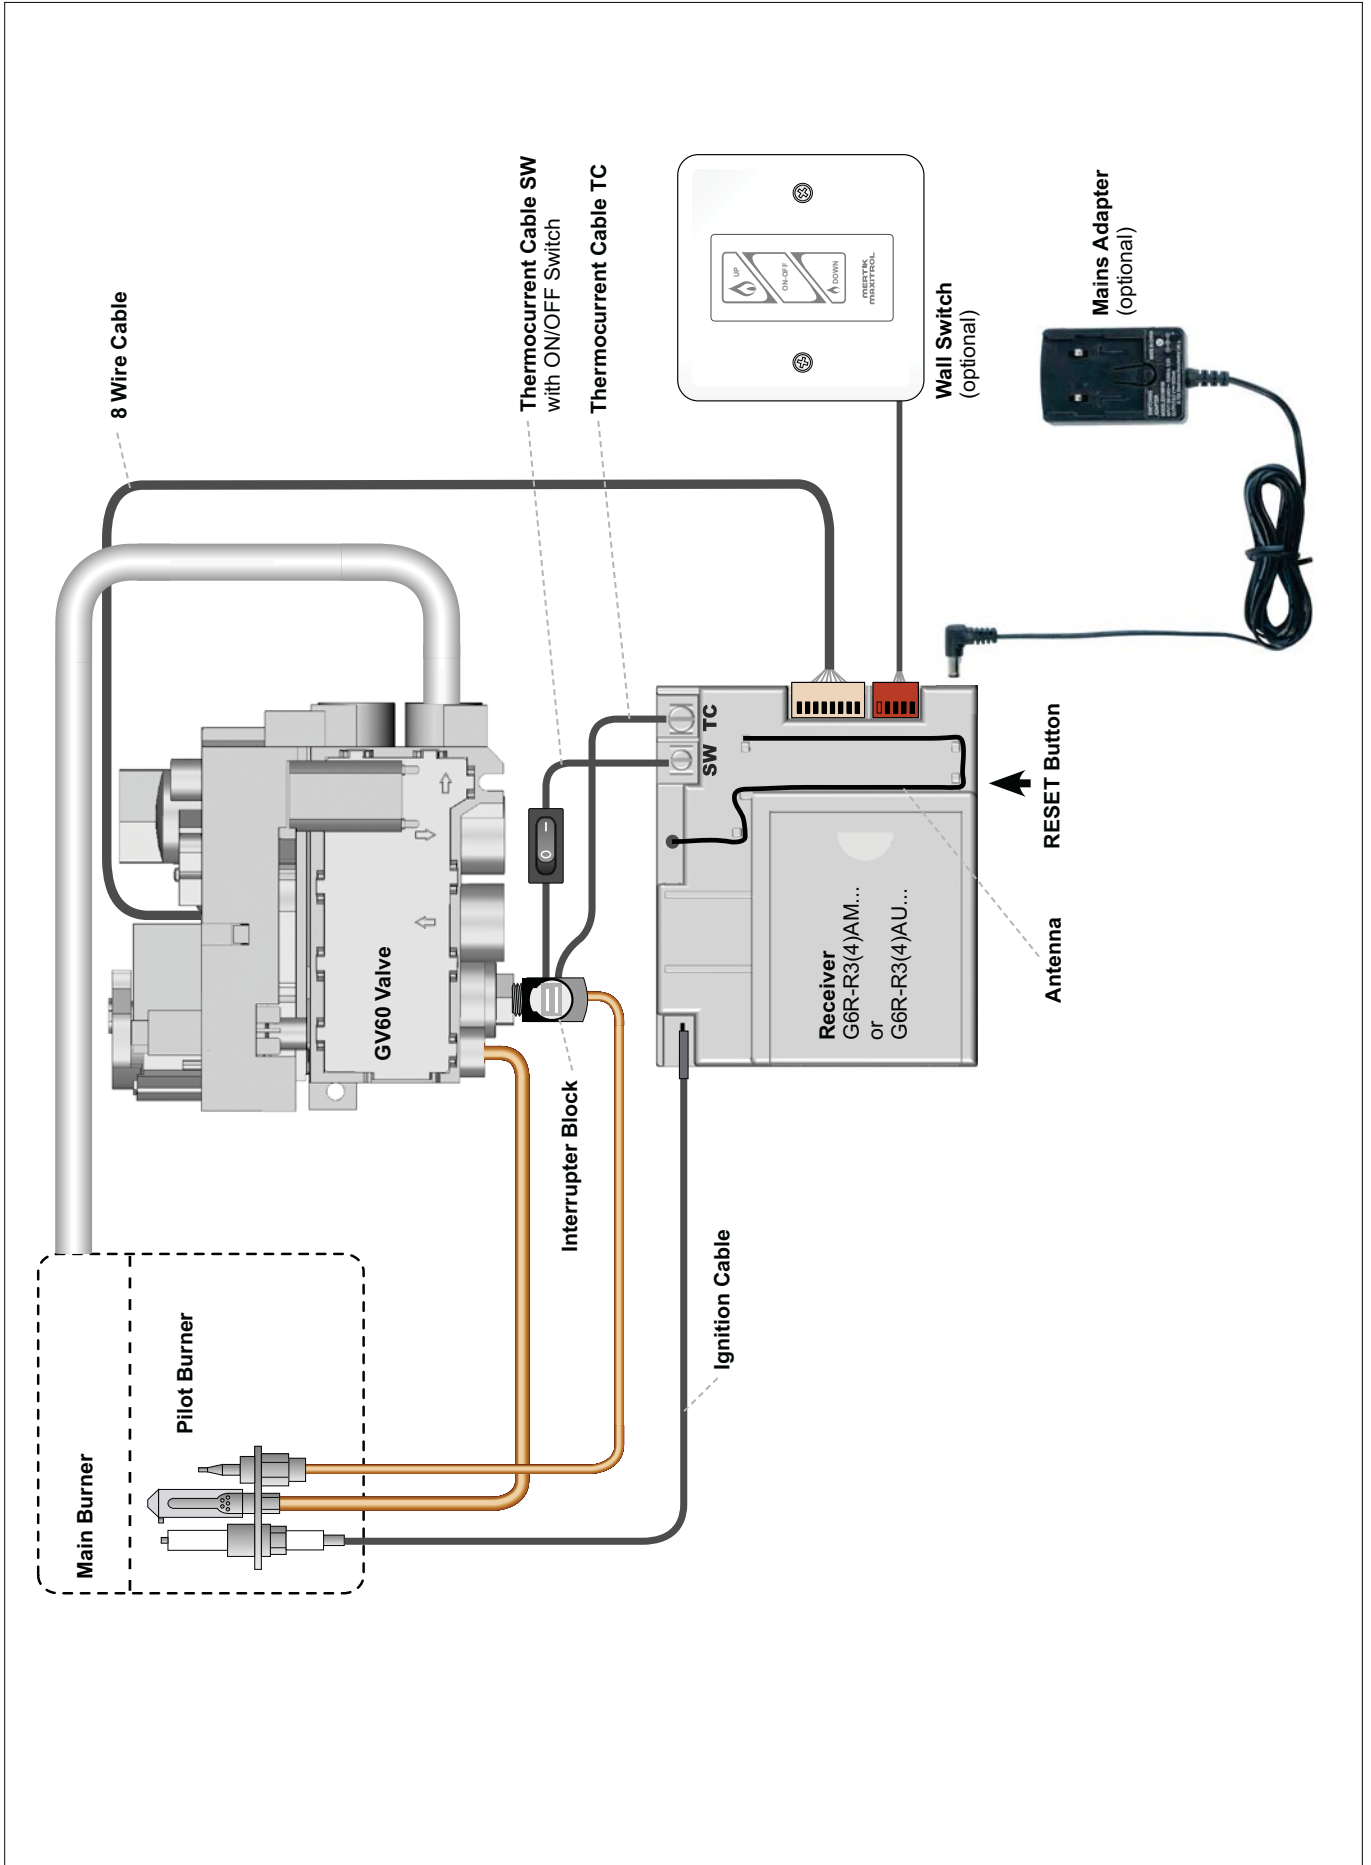

Figure 10
(See figures 10–14, pages 8–12)
3. The receiver has to learn the handset code: Press and hold the receiver's reset button (figure 10, page 8) until you hear two (2) beeps. After the second, longer beep, release the reset button. Within the subsequent 20 seconds press the \diamond (small flame) button on the handset until you hear two (2) short beeps confirming the code is set.
4. Check the reception. For better reception straighten the antenna (see figure 10, page 8) and move it to a position that allows for better reception (see notice below).